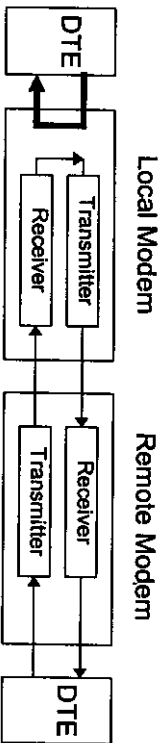

Figure 15. Local Digital Loopback Test
- Local Digital Loopback (LDL)** - This test allows you to check the connection of the modem to the DTE (Figure 15). Data received from the line is returned to the remote modem. A successful LDL test means that the DTE and connections are working properly.